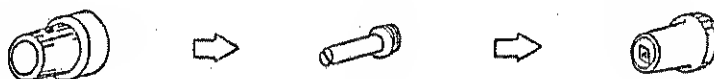

Figure 2.1.5
k. Guard Caps. (See Figure 2.1.5)